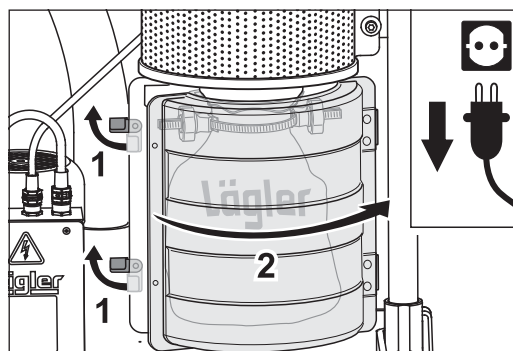

Fig. 45 Open the dust bag box by turning the two fasteners upwards (1) and open up the movable half of the dust bag box (2).
- Open the dust bag box by turning the two fasteners upwards (fig. 45, 1) and open up the movable half of the dust bag box (fig. 45, 2).